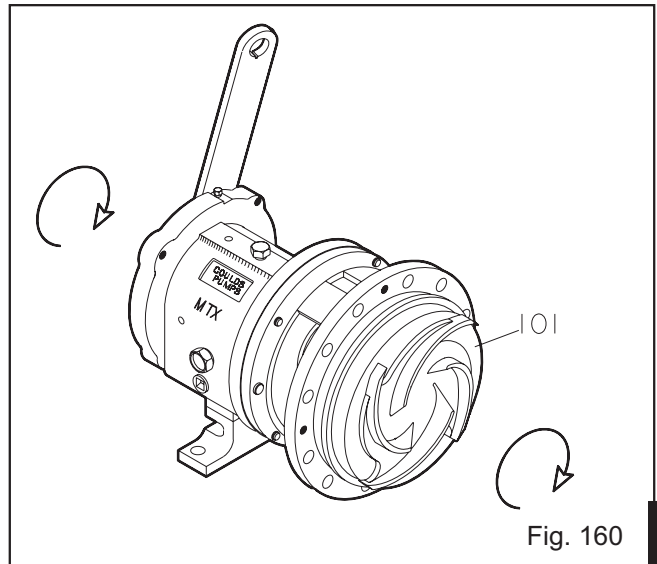

Fig. 160
**Wear a heavy set of work gloves when handling impeller (101) as sharp edges may cause physical injury.**
15. Install impeller (101) with new O-ring (412A). Put shaft wrench and coupling key on shaft. When impeller (101) makes firm contact with sleeve (126), raise shaft wrench (counterclockwise when viewed from impeller end of shaft) off bench and slam it down (clockwise when viewed from impeller end of shaft). A few sharp raps will tighten impeller (101) properly (Fig. 160).